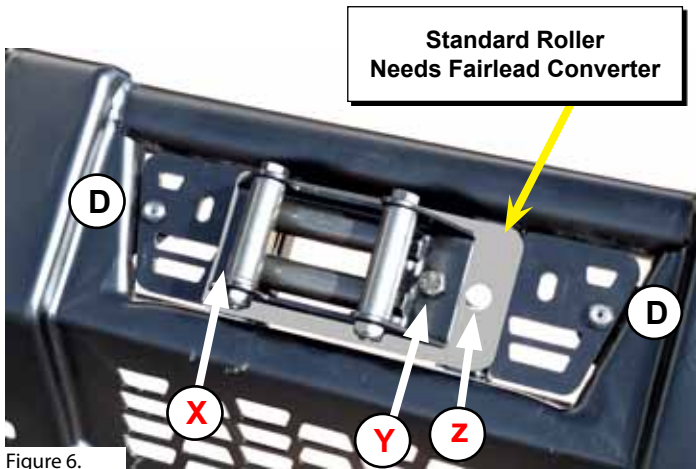

Figure 6.
Note: If you have a two hole, or a standard winch you will need the converter bracket. If you have a wide winch discard the converter bracket, shown in (Figure 6). Without the bracket Install bolt (Y&X) directly to the grill & fairlead using hole (Z).